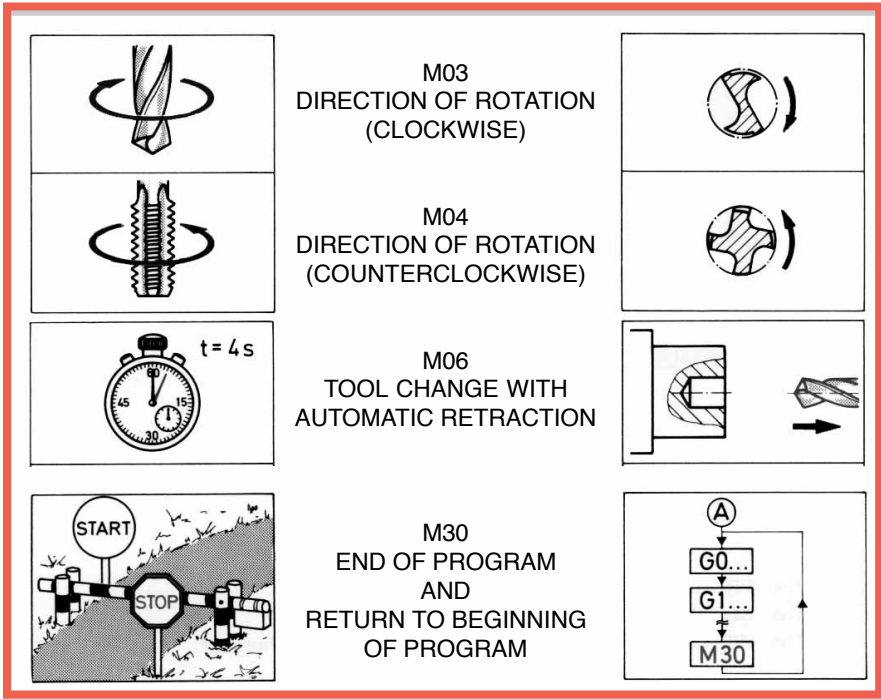

Fig. 15 The functions of a few common M-codes. (Deckel Maho, Inc.)
**M or miscellaneous codes are used to either turn ON or OFF different functions which control certain machine tool operations, Fig. 15.**